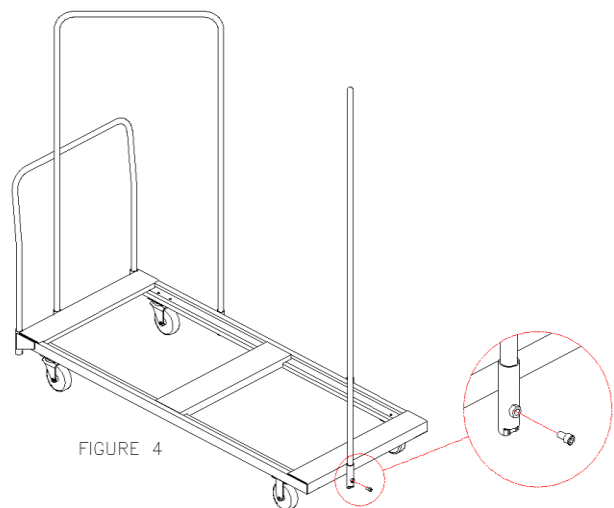

FIGURE 4
3. Start the 3/8" X 5/8" socket head bolts into the threaded nut on the sockets (if not already done -See Figure 4). Do not tighten yet.
5. Secure the handles to the Base by using the wrench provided (See Figure 4).